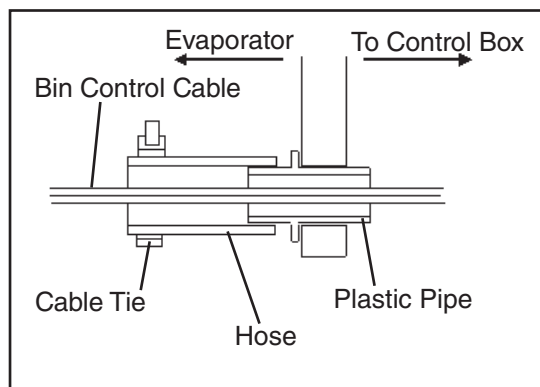

Fig. 12
- 7) Pull the bin control cable so that there is no slack in the ice drop area, then secure the hose that the lead runs through with a cable tie. See Fig. 12.